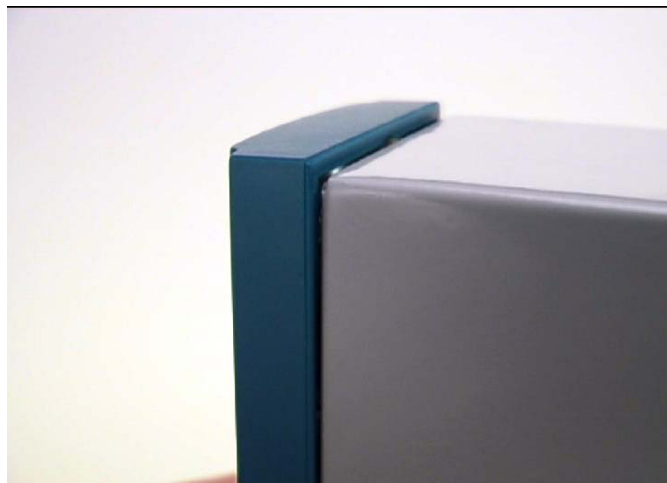

Figure 2-3. Lifted Front Panel
3. Carefully slide the front panel up 4 mm (0.15 in) to allow it to clear the retaining groove at the top of the case, and then allow the panel to come forward to clear the panel case completely (refer to Figure 2-3).